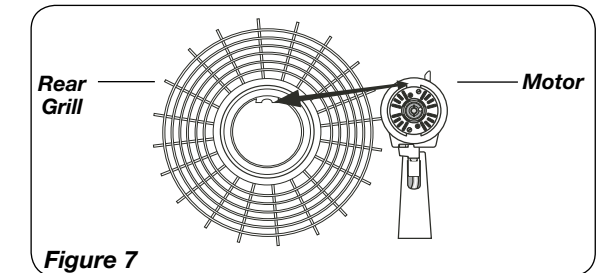

Figure 7
1. Tilt **Head Assembly** back. Put **Rear Grill** on **Motor**. (*Figure 7*)